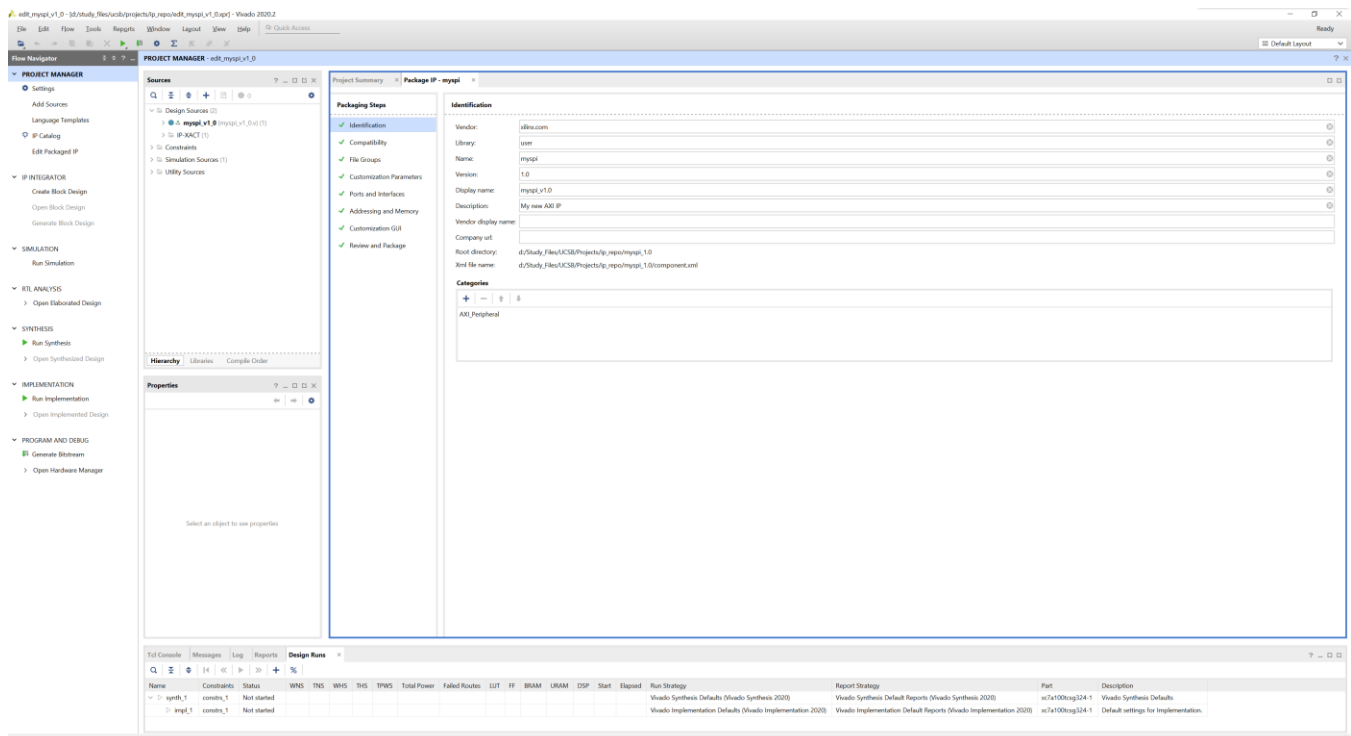

Figure 3: New project window for editing IP.
- 3) In the next step, select “Edit IP” and click “Finish”. A new Vivado window should appear as in Figure 3.